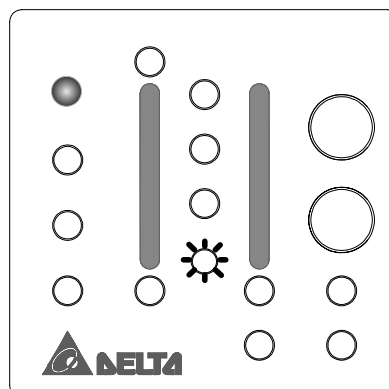

Figure 3-17
- ✓ When under (or over) bus voltage is happened in the UPS and is so-called “**Bus U.V.P**” (“**Bus O.V.P**”). Show as Figure 3-17, 3-18.